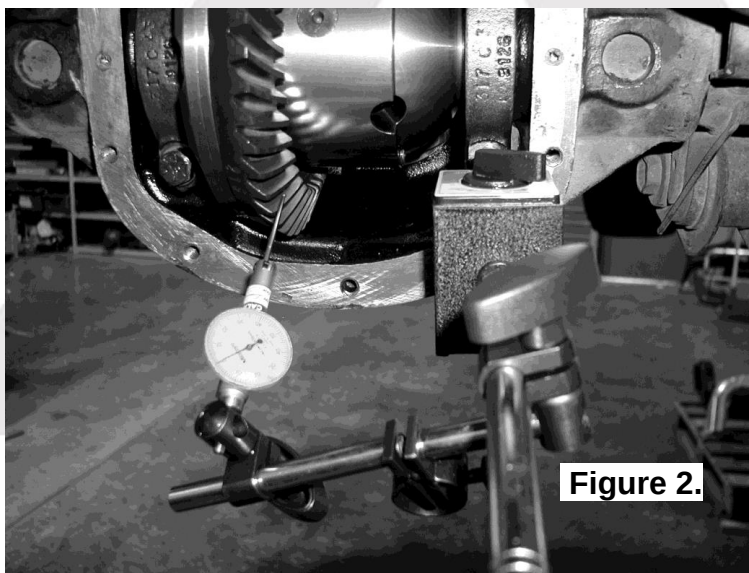

Figure 2.
- ☐ Set a depth indicator on one of the ring gear teeth (Figure 2.).